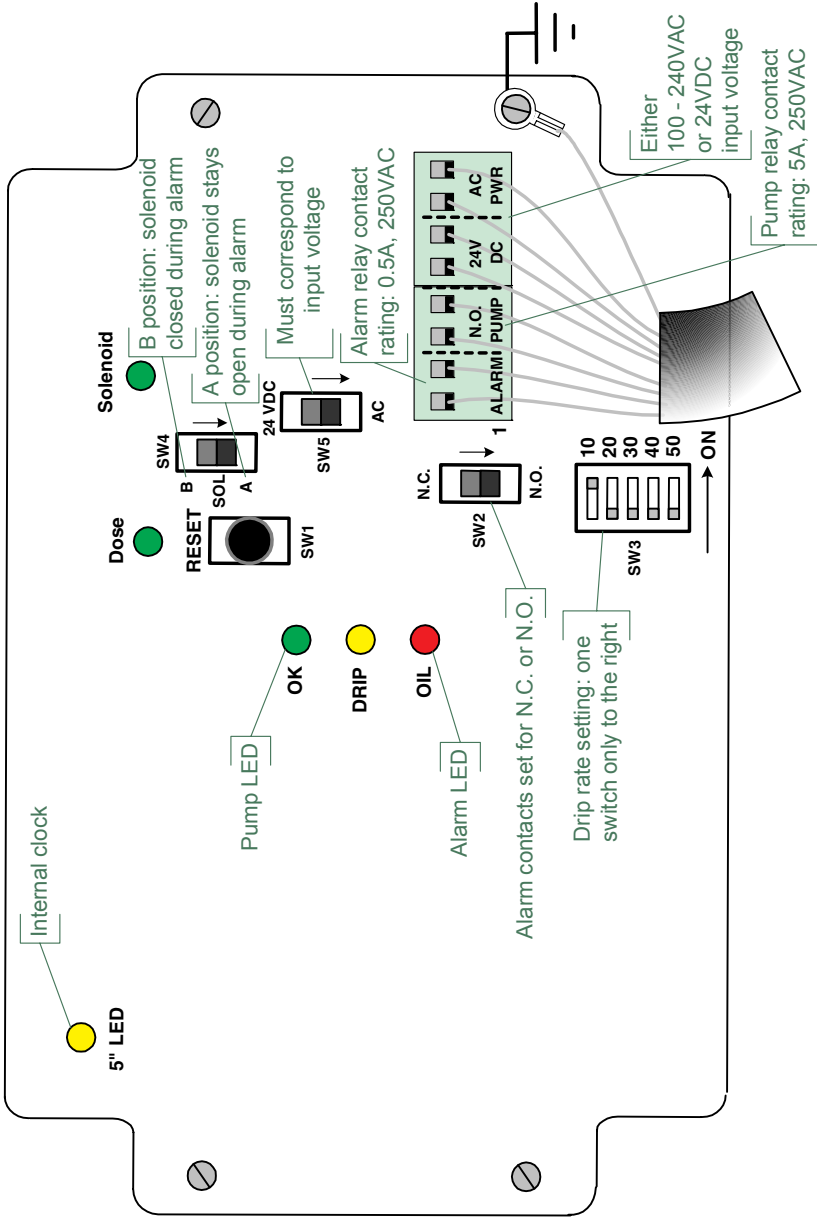

Figure 7: DripDoser – key components
Wire the DripDoser according to Figure 7. Connections are described in detail in Table 2.
1. Connect the green ground wire to a chassis screw or bolt, preferably using a ring terminal. See Figure 7, adjacent to the wiring terminal blocks.
2. Connect the power/drip/pump/alarm cable to the wiring terminal blocks shown in Figure 7, according to Table 2.